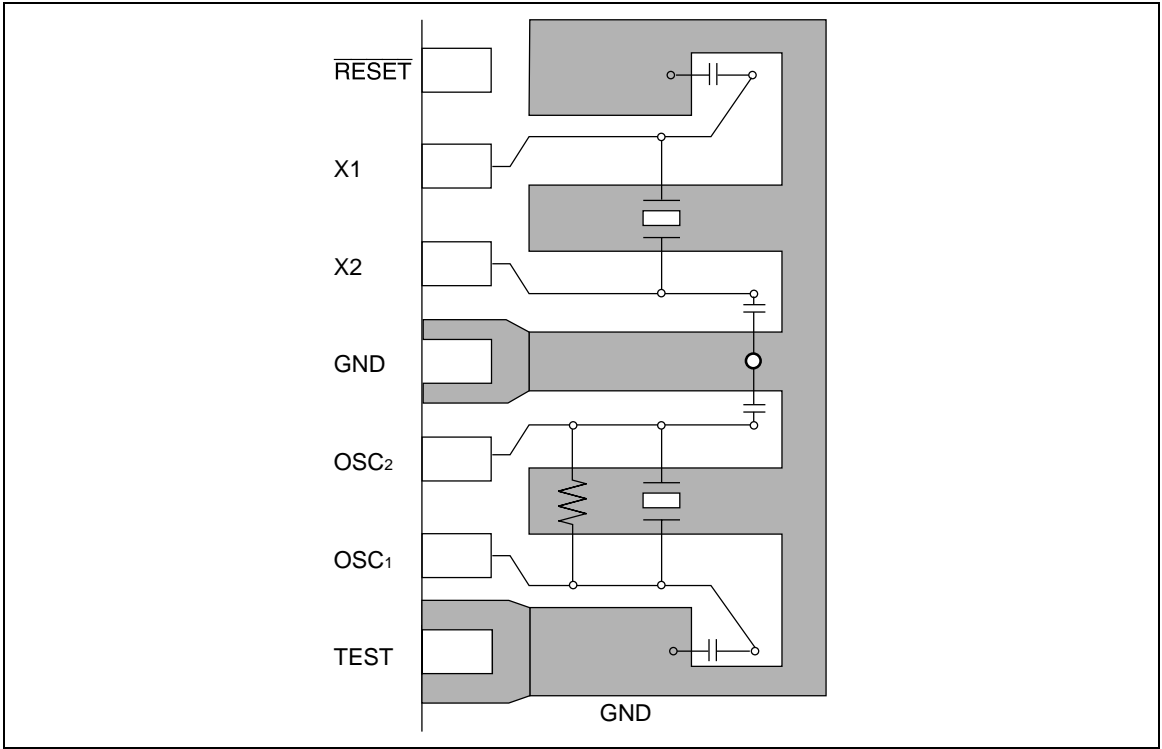

Figure 25 Typical Layouts of Crystal and Ceramic Oscillator
2. Make the connections between the OSC₁ and OSC₂ pins (X1 and X2 pins) and external components as short as possible, and ensure that no other lines cross these lines (see layout example in figure 25).